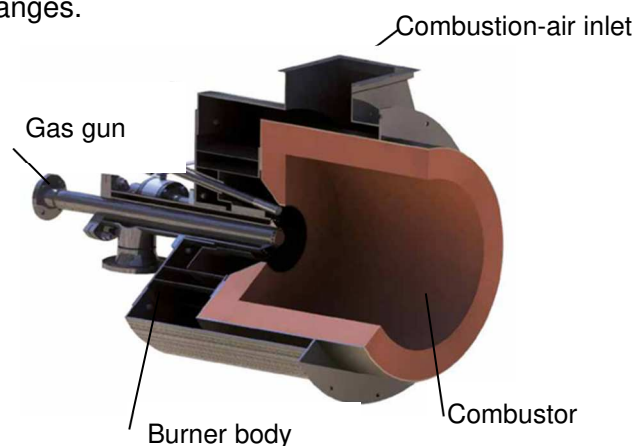

Figure 2.1 - Intensityflame-gas part recognition
The burner is available in twelve (12) different capacity sizes from 1500 kWlhv up to 55000 kWlhv. The mild steel burner body (figure 2.1) houses an alumina air bond refractory or AISI 310 combustor, a mild steel swirling plate and a gas gun. The gas gun comes in 2 options. One for single gas operation and the second for dual gas operation. The gas gun is rotatable in 4 different positions to have the best fit with the incoming gas- and air flanges.